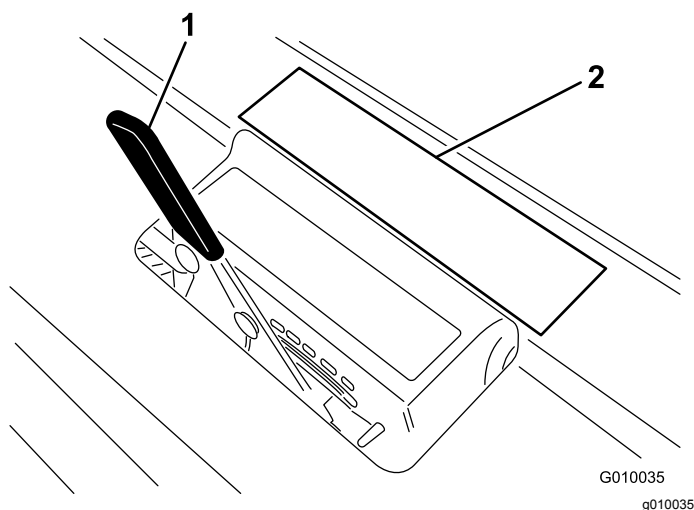

Figure 18
3. Lay the tine on the tine depth decal (Figure 18) with 1 end lined up with the desired depth of aeration (refer to the tine overlay on the decal).